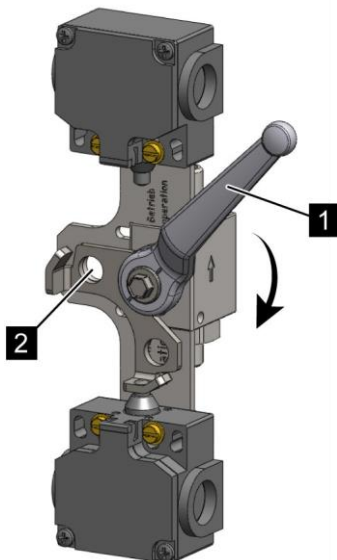

Fig. 21: Blocking device (optionally with 1 or 2 limit switches)
3. ➤ Turn the ball valve (Fig. 21/1) of the blocking device as far as it will go in clockwise direction (Fig. 21/arrow).
4. ➤ Hook the padlock into the locking eye (Fig. 21/2) of the blocking device and lock it.